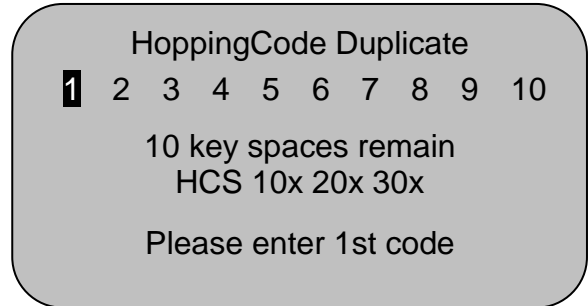

Fig. 14
- d. The LCD displays (Fig. 14) when the "seed code" was received.